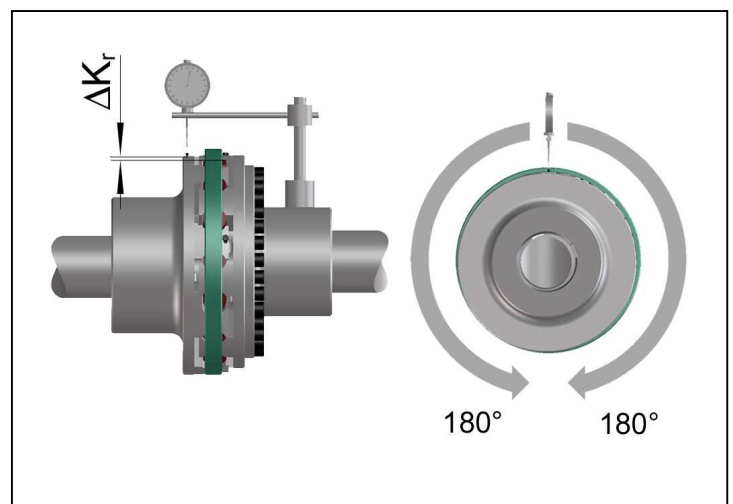

Fig. 8
- Measure one complete revolution (360°). Determine the largest deviation K_{r1} and the smallest deviation K_{r2} (Fig 8).